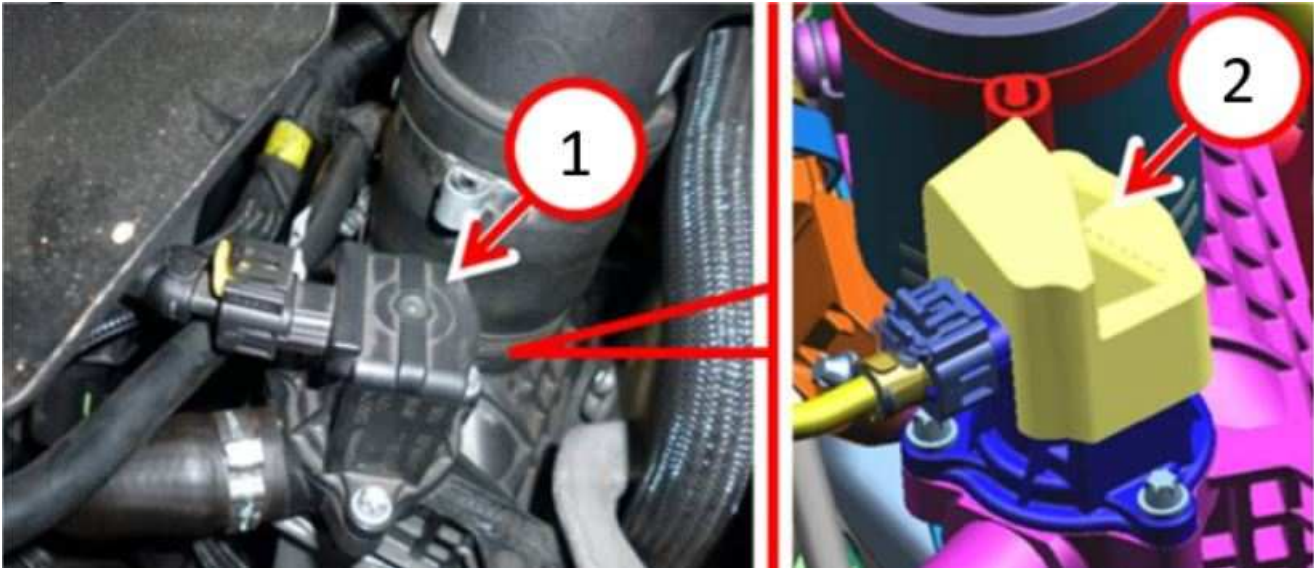

Fig. 2
7. Install the protective cover (68519378AA) on the By-pass valve (Fig. 2) .